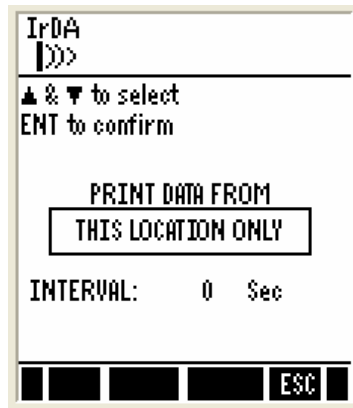

Figure 25 : Selecting options for printing memory locations
4. Press **PRIN (F2)**. The screen appears for you to select printing options (Figure 25). This allows you to choose either all memory locations or the current memory location for transfer.